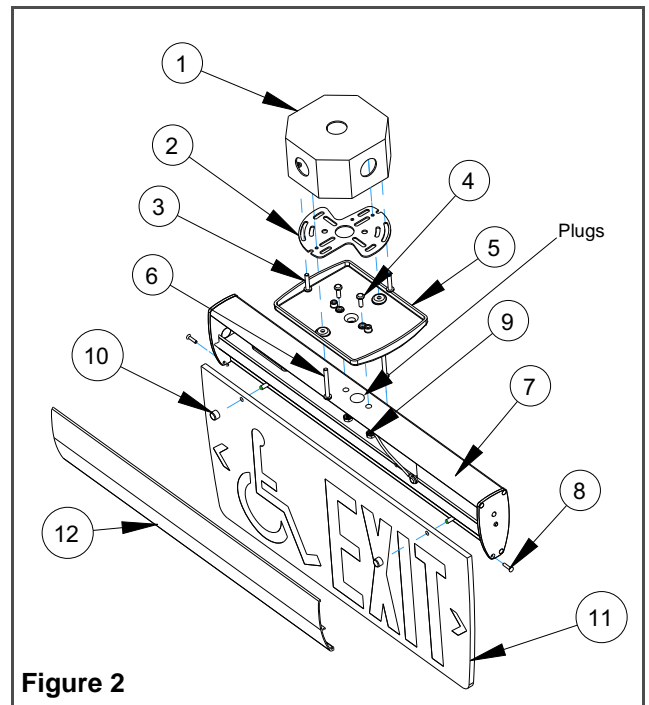

Figure 2
Ceiling or End mount (See Figure 2 & 3)
- a. For ceiling mount: remove plugs(see figure 2)